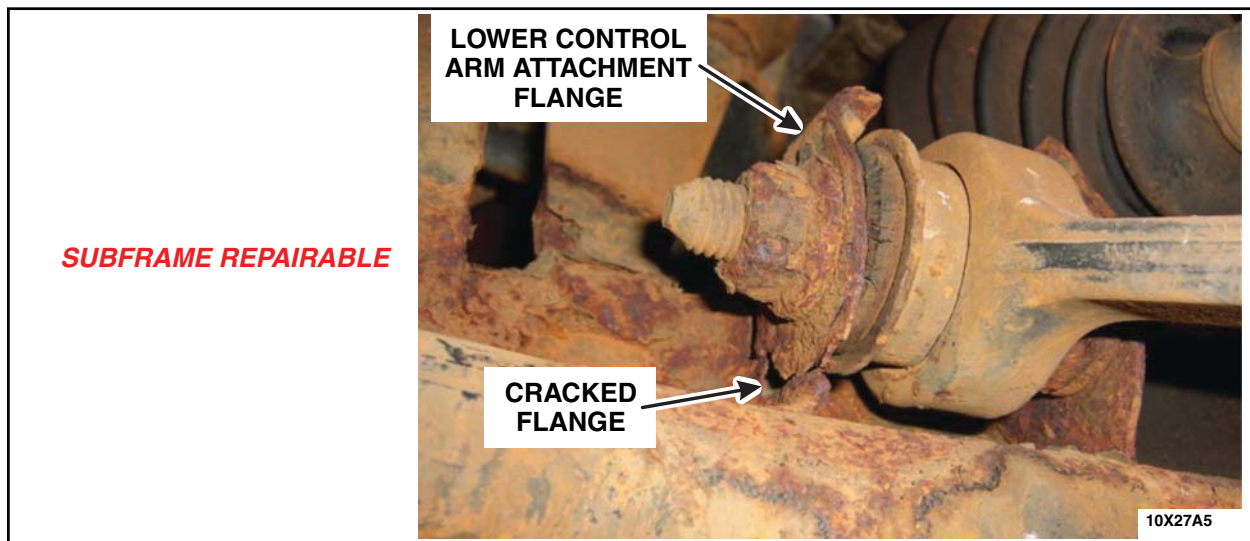

FIGURE 2
3. Inspect both surfaces of the LCA rear attachment flanges on the driver and passenger side of the subframe for cracks, perforations, excessive loss of metal, non-factory welded flanges or reinforcements. See Figures 2, 3, 4 and 5.